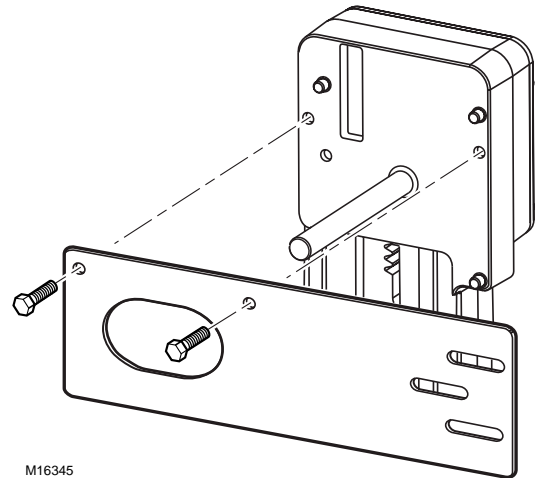

Fig. 2. Installing actuator mounting plate to Q5020.
5. Using the included 3/4 in. long bolts, attach the actuator mounting plate to the housing so that it protrudes to either the left or the right side of the linkage, whichever is most convenient for installation. See Fig. 2.